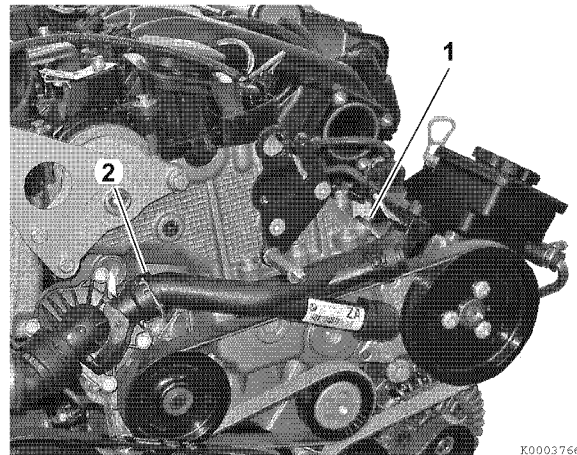

Figure 5-43
13. Connect oil cooler return pipe (2, **Figure 5-43**) to thermostat housing.
14. Install bolt (1, **Figure 5-43**).